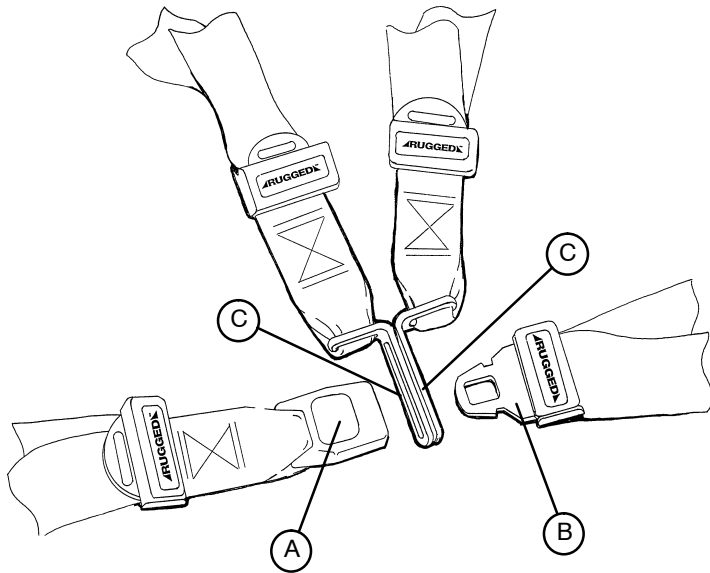

Figure 11 - Buckling the Restraints
To open the restraint, press the red button (A) on the front of the buckle "receiver". This releases the buckle "tang" (B) which can then be pulled out of the receiver (Figure 11).
To close the restraint, push the tang into the receiver until a "click" is heard. When fastening the chest restraint be sure the tang passes through both links (C) on the shoulder strap (Figure 11).